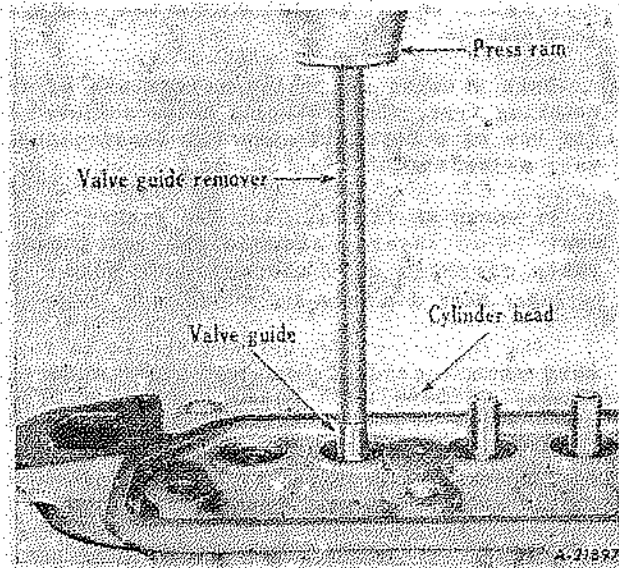
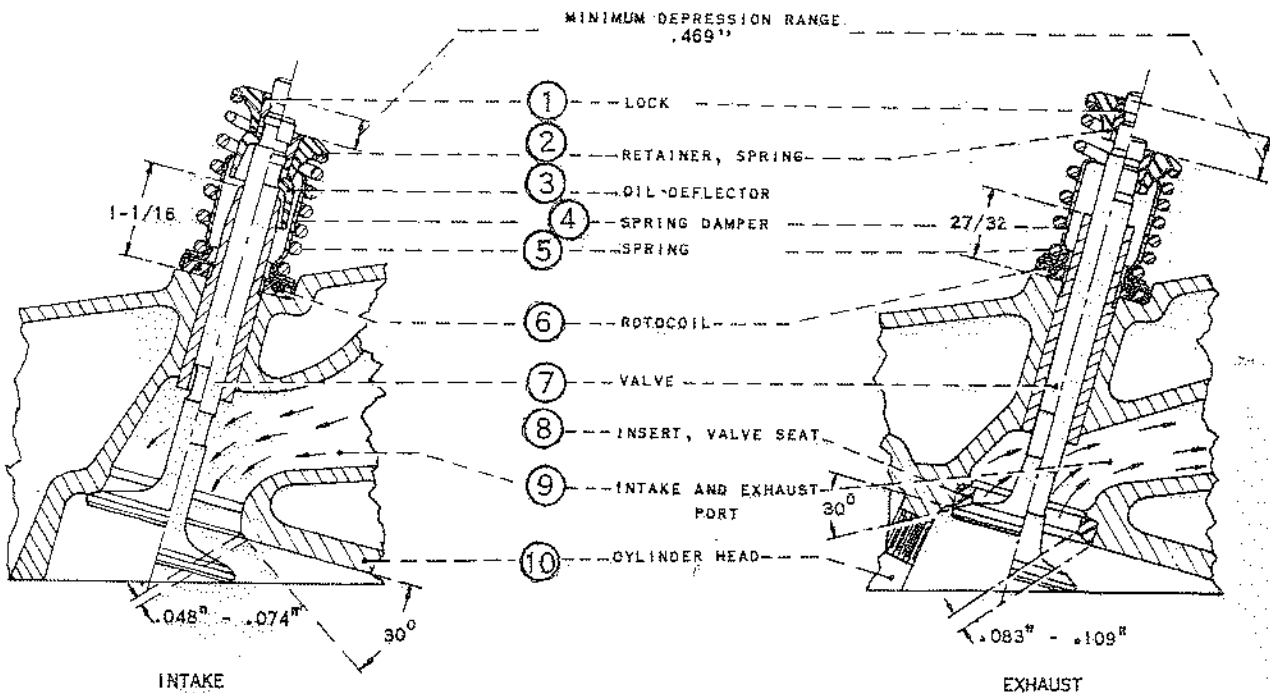

Fig. 12
Fig. 13
6. Exhaust valve seats are of alloy, and are pressed into place (Fig. 13). These valve seats lengthen the period between valve reconditioning operations. Valves and valve seats are cooled by continuous circulation of water through the cylinder head.
Both exhaust and inlet valves are of the rotating type, this rotation being achieved by the use of a rotocoil assembly located under each valve spring (6) Fig. 13.
As shown at (8) Fig. 13. The exhaust valve seat is an insert, whereas the inlet valve seats directly onto the cylinder head.
1. Compress valve spring with a valve compressor and remove valve spring retainer locks (Fig. 13). Remove retainer. Remove valve springs and damper and separate valve spring damper from valve spring. Note that valve springs can be installed with either end toward the cylinder head. Remove all valve springs as outlined, and remove valve spring damper from each spring (Fig. 10).
2. If any valve guide shows excess clearance of out-of-round condition, press guide from cylinder head with a special removing tool (Fig. 12). Install new guide, and press into cylinder head until approximately 1-1/16 for intake and 27/32 for exhaust remains above top surface of cylinder head (Fig. 13).
3. Specified valve seat widths are shown in Fig. 13.
5. Inspect each valve coated with blue for seat position. The seat should be at approximate centre of valve face. (Fig. 13).
3. Referring to Fig. 13, place a rotocoil assembly (6) over the guide (flange upwards). Insert the valve and hold it on its seat. Push the oil deflector (3) over the valve and guide as shown as far as it will go. Place a valve spring (5) and damper (4) with a retainer (2) over the stem and guide. Compress the spring with a suitable compressor until the locks (1) can be assembled onto the valve stem end groove, and release the spring. Finally push the valve open until the oil deflector locates itself into the lower groove in the stem.